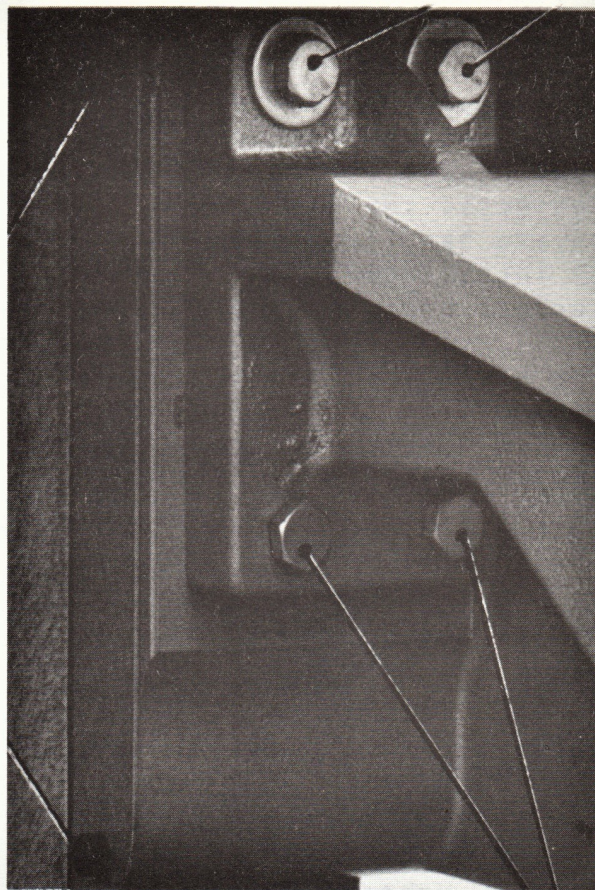

FIG. 4
1. Attach Model VII Soundhead to Pedestal with two 3/8" Hex Head Screws and Washers as shown in Fig. 4. Do not tighten.
2. Insert two lower 3/8" Hex Head Screws and tighten lower and upper screws. The lower screws will force correct horizontal alignment. (See Fig. 4)
3. Attach lower magazine cabinet to Soundhead and anchor by two 3/8" x 1" Allen Screws to the two threaded holes in Model VII Soundhead. (See Fig. 4)